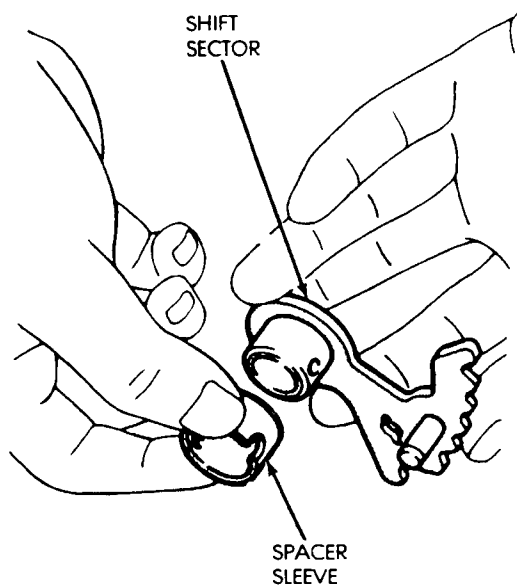

Fig. 25 Installing Spacer Sleeve On Sector
- (11) Install new spacer sleeve on sector (Fig. 25).
- (12) Lubricate manual valve shaft and install it in case.
- (13) Lubricate sector and sleeve and install them on shaft.
- (14) Align hole in spacer sleeve with notch in sector. Then install shift sector roll pin. Tap pin into sector and shaft and stake sleeve to sector and shaft securely.